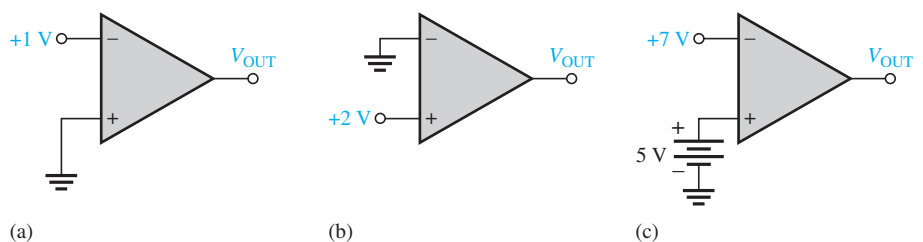

FIGURE 8–44
2. Determine the output level (maximum positive or maximum negative) for each comparator in Figure 8–44.
3. Calculate the V_{UTP} and V_{LTP} in Figure 8–45. $V_{out(max)} = -10\text{ V}$.